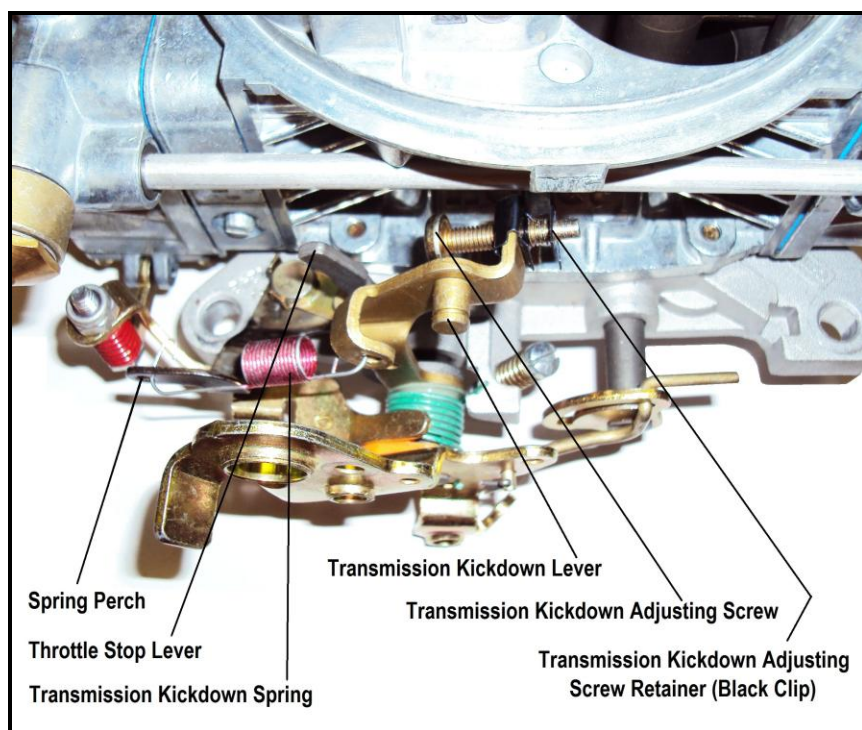
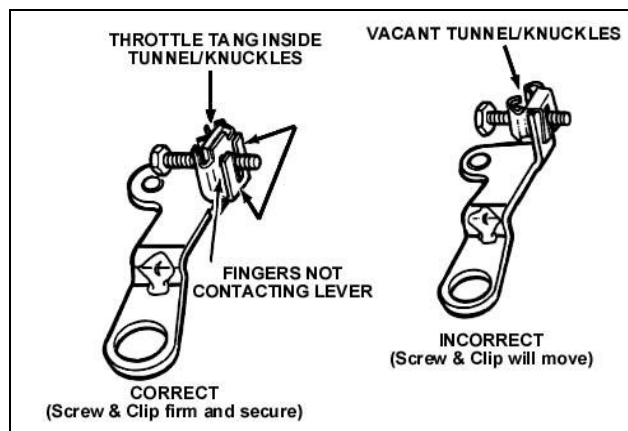

Figure 5—Ford applications
Figure 6—Ford applications
2. Insert the transmission kickdown screw with the black retaining clip on the transmission kickdown lever (Figure 5). This assembly must be installed according to the detailed drawing (Figure 6).
4. Install the transmission kickdown spring between the transmission kickdown lever and spring perch (Figure 5).